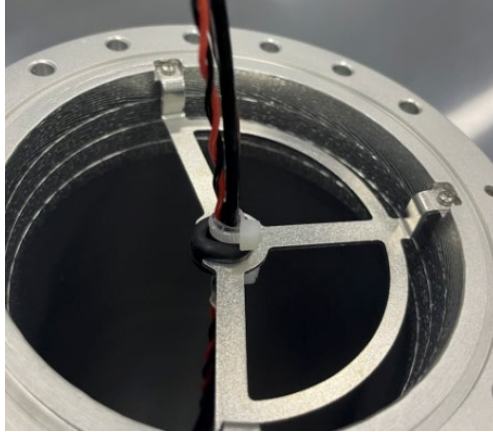

Figure 3-22 Link cable installation
- Place the retaining ring in the middle hole of the wire rack, as shown in Figure 3-22: